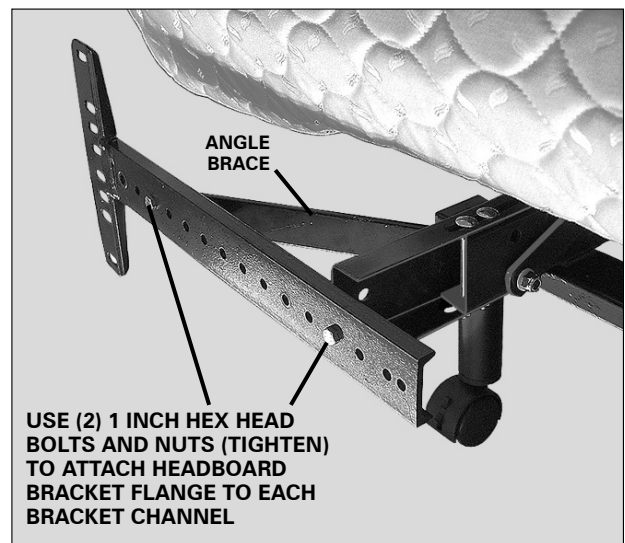

FIGURE 10: Headboard bracket flange installation (attach one flange to each of the headboard bracket channels).
- c. Attach one headboard bracket flange to one of the bracket channels with (2) hex head bolts/nuts (**FIGURE 10**). Tighten bolts. Repeat procedure to attach the other headboard bracket flange.